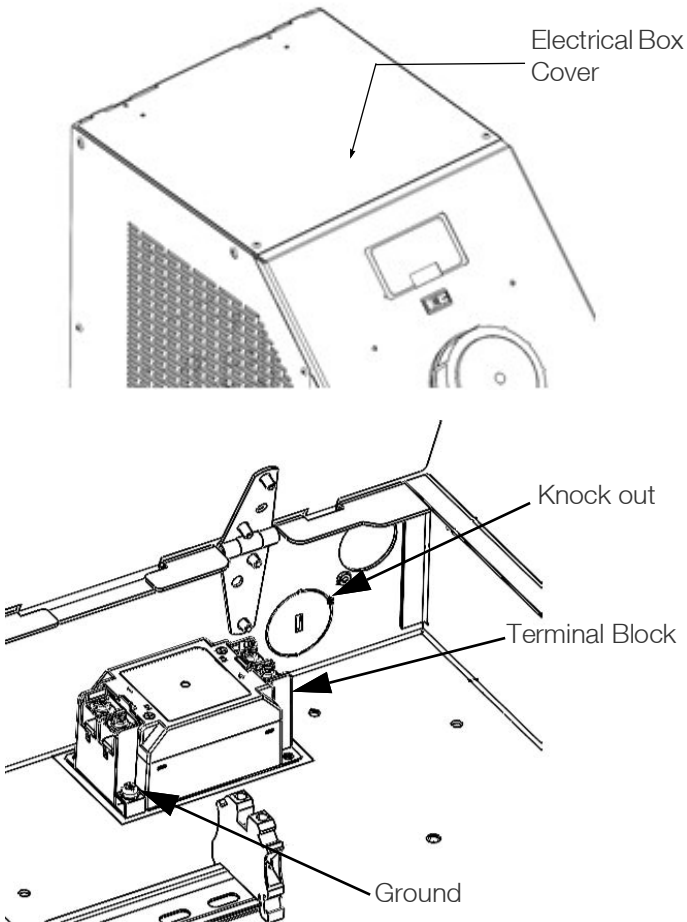

Figure 38. TSC16-90 Electrical Box
- Refer to the label in the electrical box to configure your chiller, Refer to **Figure 38**.